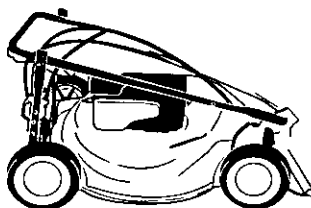

FIGURE 13
- You can fold your mower's handle for convenient storage as shown in Figure 13.